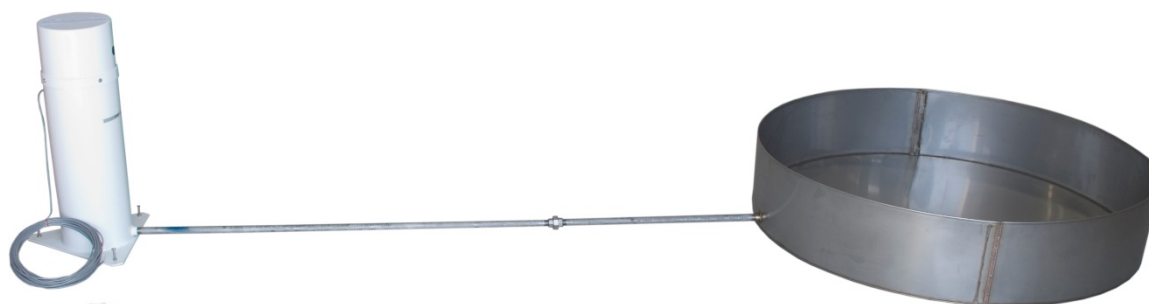

FIGURE 6-2. 255-100 Attached to the 255-200 by Using the 255-100P/F
9. Attach the evaporation gage to the evaporation pan (FIGURE 6-2).